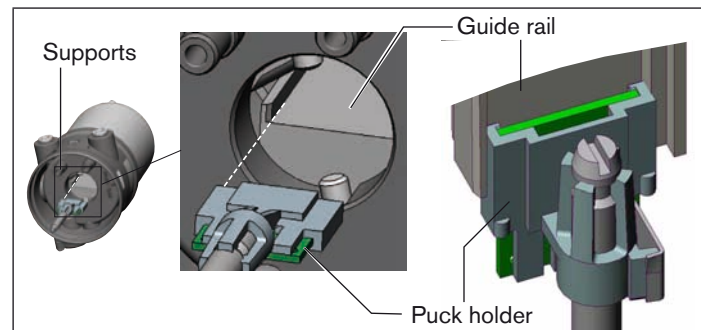

Fig. 4: Aligning the puck holder
1. the puck holder can be inserted into the guide rail of the control head (see "Fig. 4") and